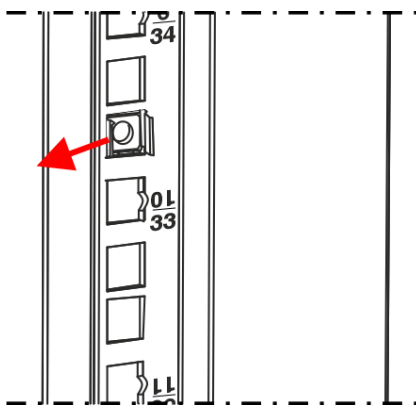
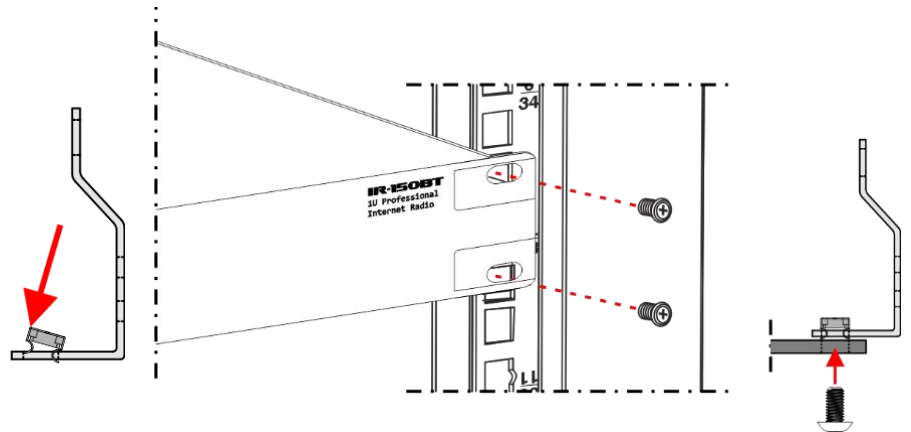

Fig. 26
Fig. 27
- 03) Press the other side of the **cage nut (A)** and push it through the hole, as shown in Fig. 26.
- 04) Repeat steps 2–3 to install the other 3 **cage nuts (A)**.
- 05) Put the equipment in front of the cabinet at the place where the 4 **cage nuts (A)** are installed. Make sure that the mounting holes on the equipment are aligned with the **cage nuts (A)**, as shown in Fig. 27.
- 06) Use a screwdriver to mount the equipment to the vertical brackets with 4 **screws (C)**.
- 07) Tighten the 4 **screws (C)** to make sure that the equipment cannot move.